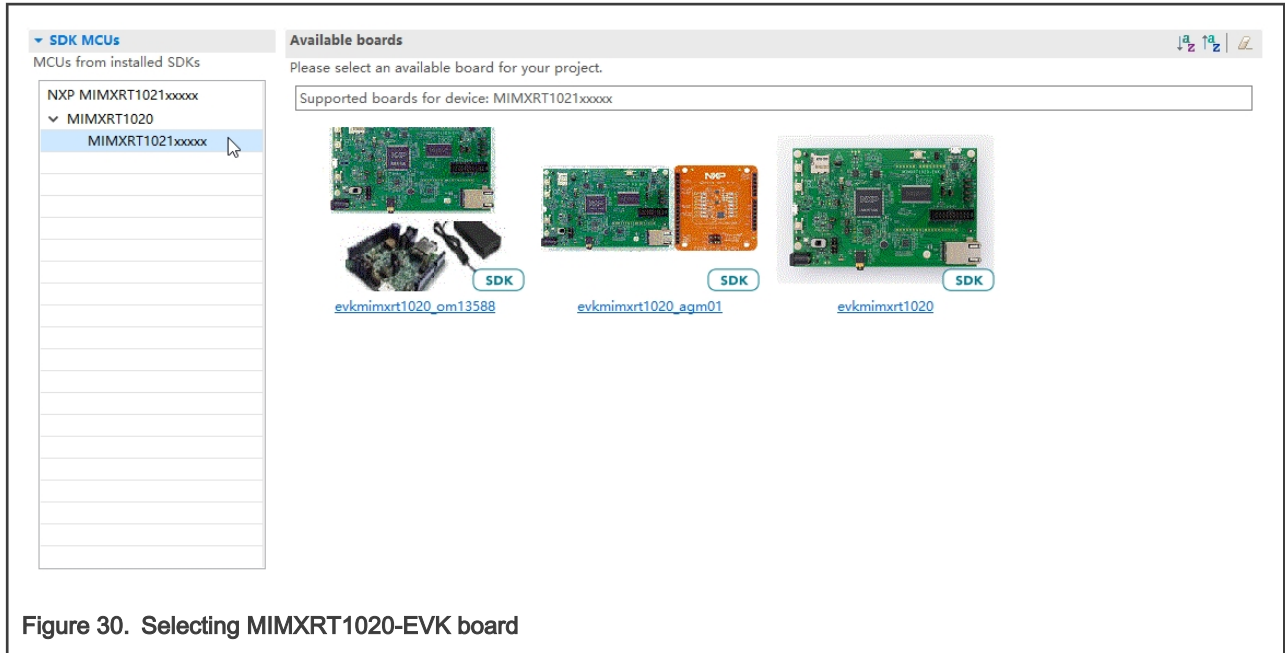

Figure 30. Selecting MIMXRT1020-EVK board
3. In the window that appears, expand the **MIMXRT1020** folder and select **MIMXRT1021xxxxx**. Then, select **evkmimxrt1020** and click **Next**, as shown in Figure 30.